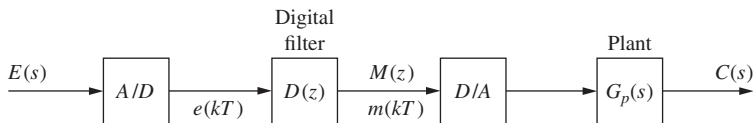

FIGURE P4.4-3 System for Problems 4.4-3 and 4.4-4.
4.4-3. For the system of Fig. P4.4-3, the filter solves the difference equation